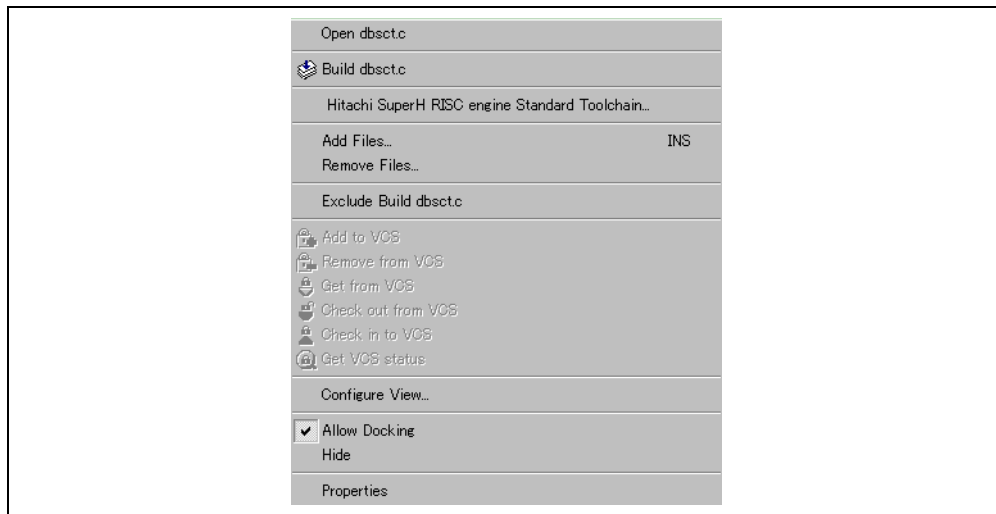

Figure 2.3: Project Pop-up Menu
1. Select [**Project->Add Files...**], select [**Add Files...**] from the “Workspace” window’s pop-up menu (see figure 2.3), or press **INS** when the “Workspace” window is selected.